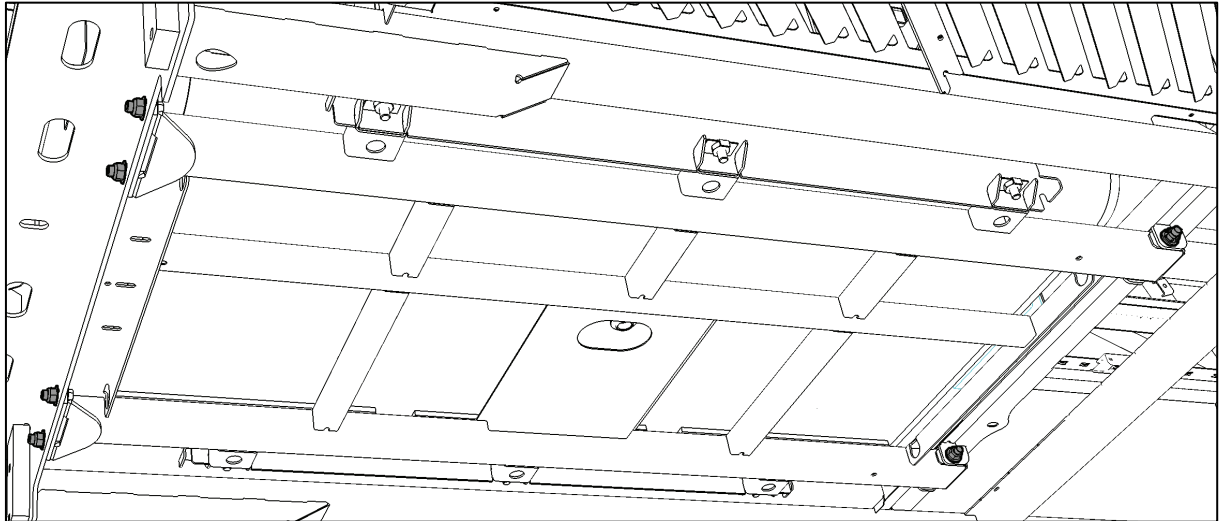

Figure 7
12. Bolt tank cradle to frame. (Fig 7 & 8)